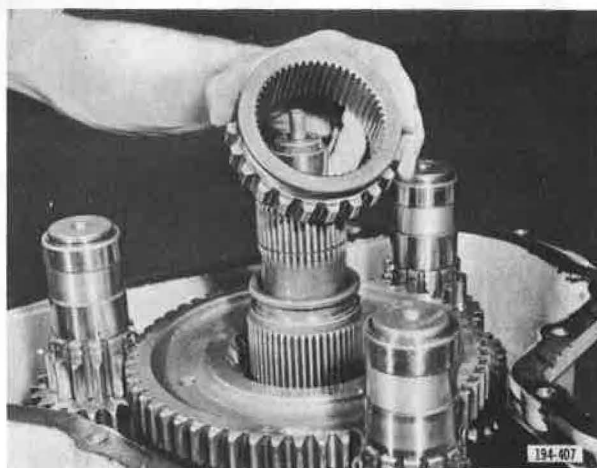

Figure 5-589. Removing First Speed Gear Sliding Clutch
4. Remove first speed gear sliding clutch, first speed gear, first speed gear thrust washer, second speed gear and second speed gear thrust washer. See Figures 5-589, 5-590, and 5-591.